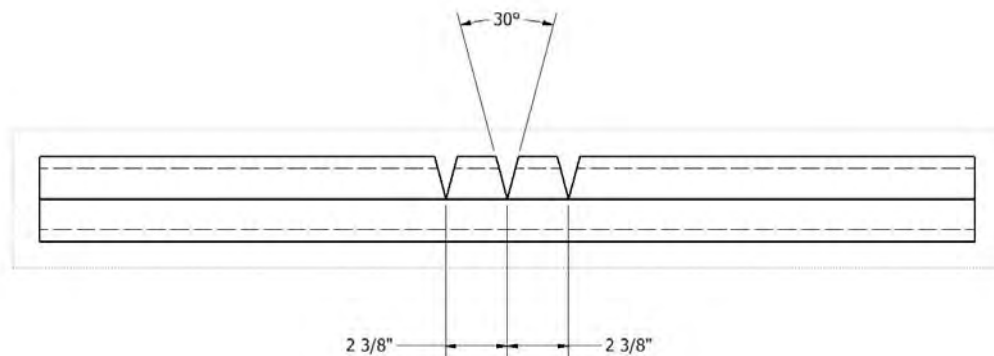

FIGURE 20
- After completing the installation of bungee balls all around the stretcher frame install the Safeoam Padding. Start by padding the inside spreader pipes before attaching the parameter padding. The padding can be cut with a razor knife and three 30 degree notches cut at the inside corners will help the padding turn the corner (SEE FIGURE 20). The padding is secured with zip ties at approximately 18 to 24 inches apart.